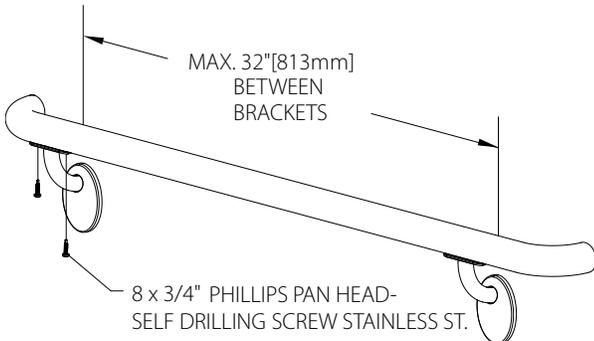

FIG. 3a
3. When joining longer sections of handrail or connecting straight lengths to corners use a splice. See **Fig. 3a**.